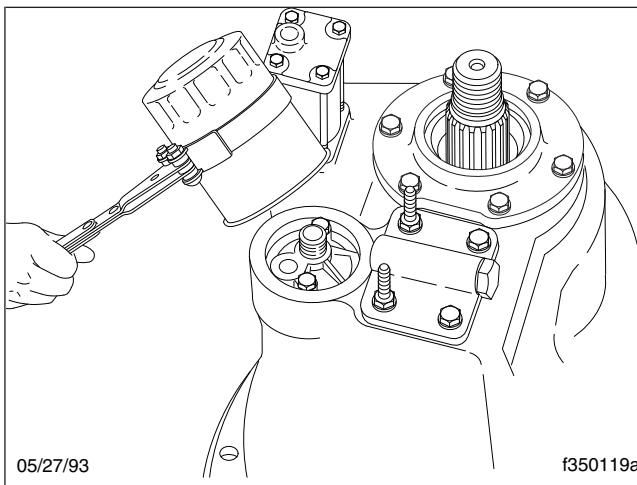

Fig. 7, Meritor Axle Oil Filter Removal
- 4.1 Remove the axle oil filter using a suitable filter strap wrench (see Fig. 7) and discard it.